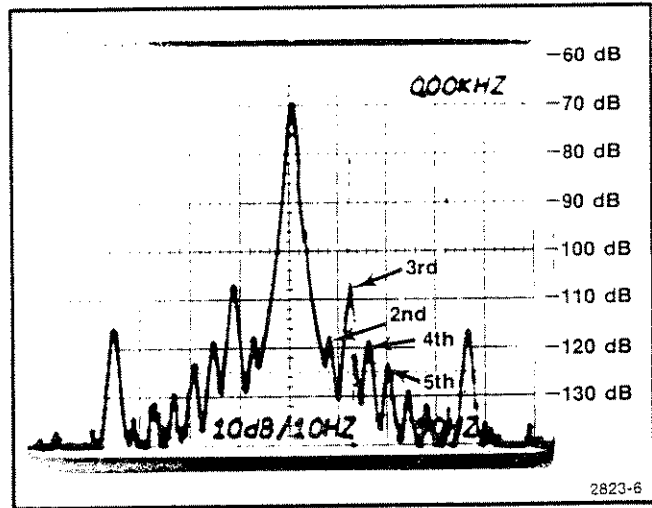

Fig. 4-3. 20 Hz harmonic distortion display.
- l. CHECK— that the calculated thd is less than  $-102$  dB (see Fig. 4-3 for harmonics at 20 Hz).